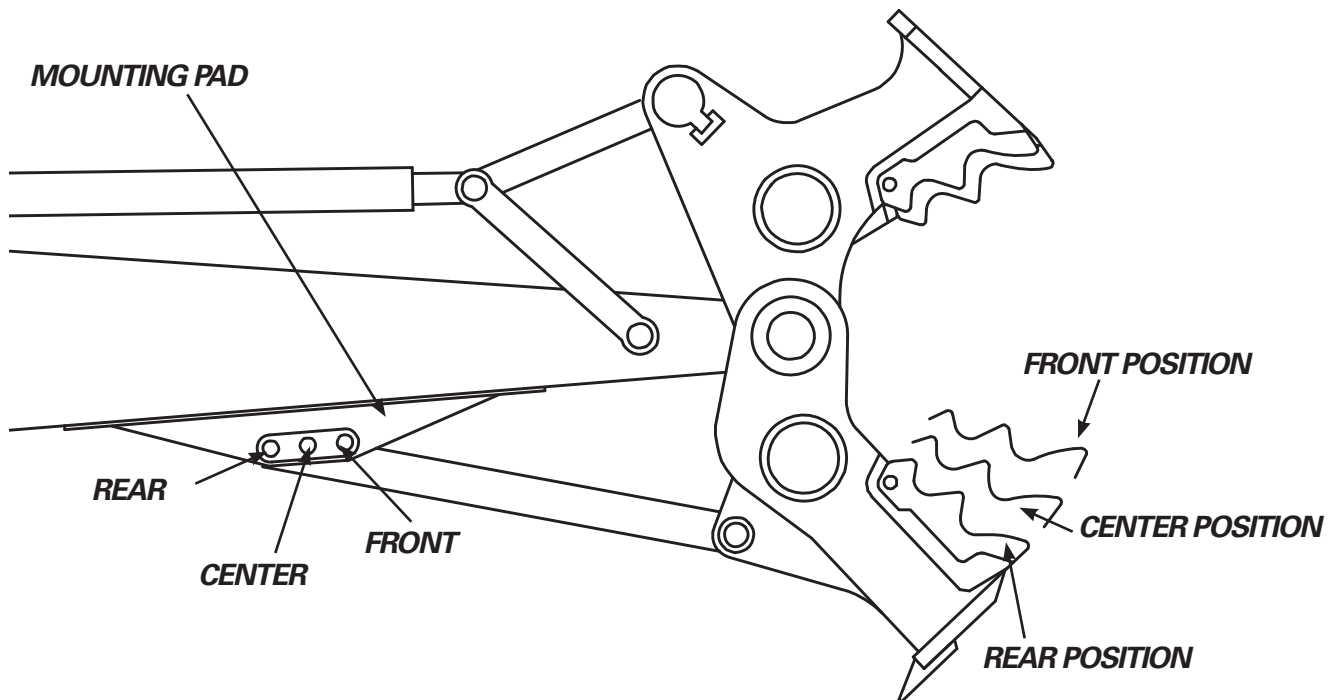

FIGURE 4-5
3. The mounting pad of the LaBounty Concrete Pulverizer has three pin positions. By using the different positions, the angle of the lower (stationary) jaw can be adjusted (see figure 4-5). For each job, the lower jaw can be positioned to make the CP more productive or easier to use. Some experimentation may be necessary to learn the advantages of each position. Using the front position provides the least amount of total opening while the rear position provides the most. The center position is the best for general use.